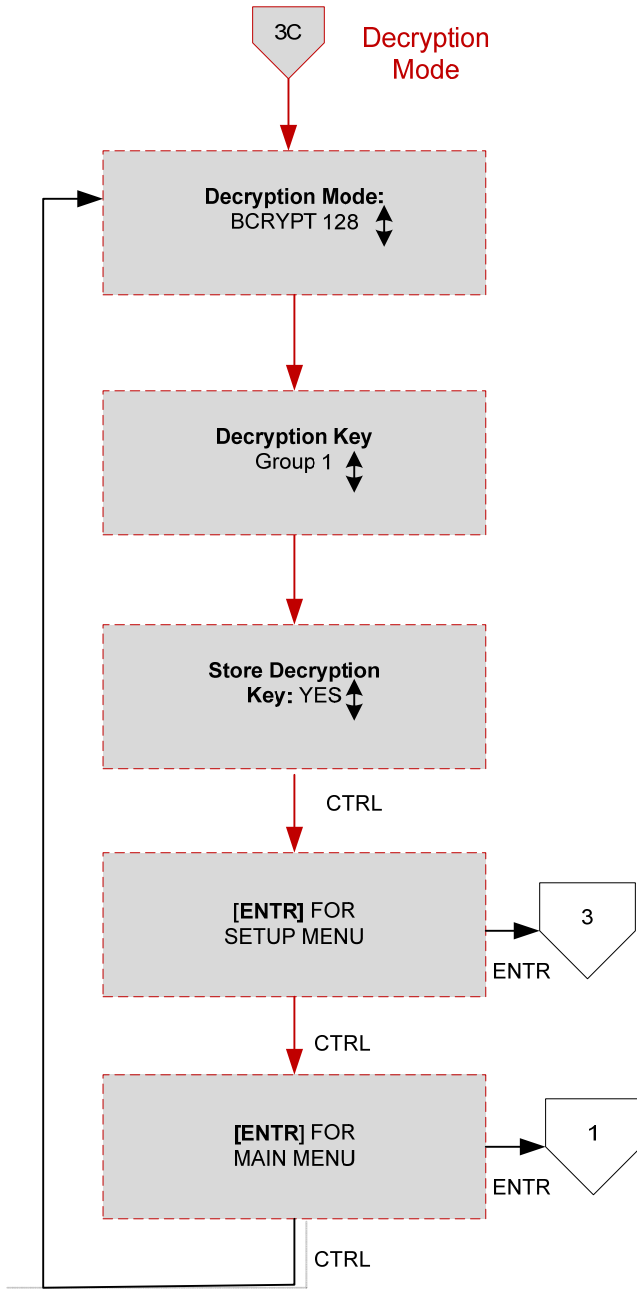

Figure 9 – Decryption Menu
- The first screen (see Figure 9) is the **DECRYPTION MODE**; the decryption options available are 128 or 256 bit (BCRYPT). This selection must agree with the incoming encrypted transport stream. Currently a 128+ and a 256+ are also available selections however they are functionally equivalent to the 128 and 256.